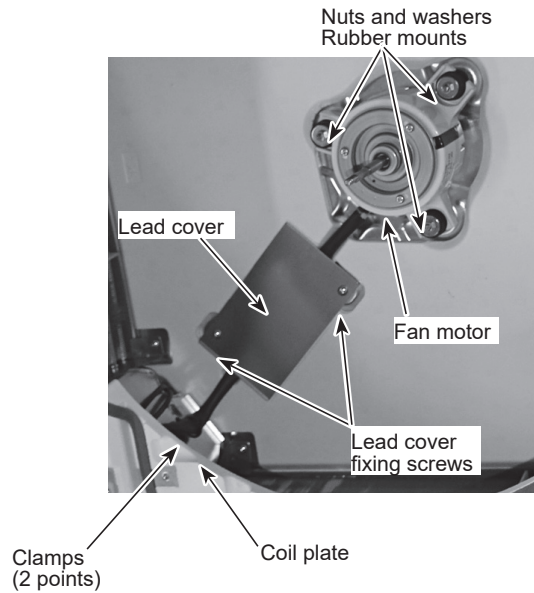

Figure 4
- (3) Loosen the 4 corner panel fixing screws (tapping screw 4×16). (See Figure 4)
- (4) Slide the corner panel to the direction of the arrow 1, and remove the corner panel. (See Figure 4)
- (5) Remove the 4 installation screws (M5×28). (See Photo 11)
- (6) Release the 2 temporary hanging hooks to remove the grille. (See Photo 12)